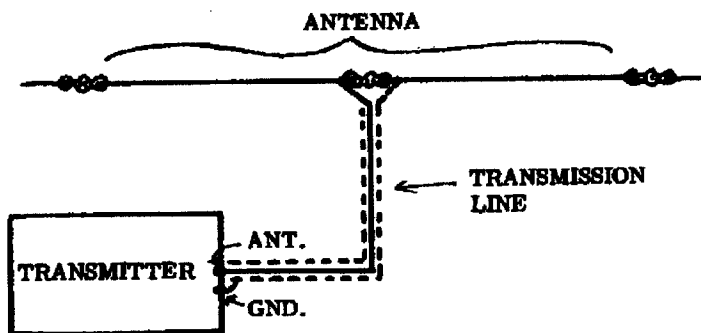

Fig. 3. Half-Wave Dipole Antenna.
13. Another type of antenna that can be used with this transmitter is the Half-Wave dipole antenna. This is shown in Fig. 3. The transmission line can be #RG-59U and it can be of any length. The inner conductor of the transmission line is connected to the Antenna terminal of the transmitter and the metal braid of the transmission line is connected to the Ground terminal. At the antenna, the inner conductor is connected to one side of the antenna and the braid is connected to the other side. The total length of the antenna (not including the transmission line) should be 65 feet for 40 meters and 125 feet for 80 meters. The center insulator should be exactly in the middle of the antenna. While the random length wire antenna can operate properly for both 40 and 80 meters, we must use separate antennas for the two bands when using the dipole type of antenna of Fig. 3. In either case, the antenna should be as high as possible. See Antenna Handbook or ARRL Handbook for other suitable antenna systems.